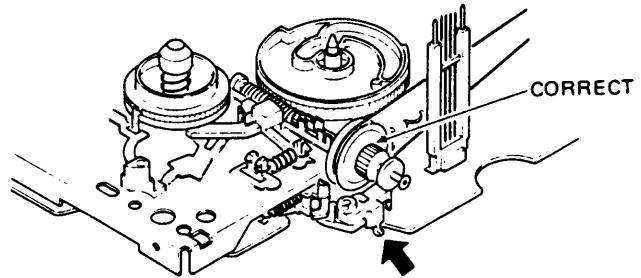

Fig. 1-1-8
2. Refer to Fig. 1-1-8 and confirm that the clutch is engaged. If necessary, press the lever indicated by the arrow to where the clutch is locked.